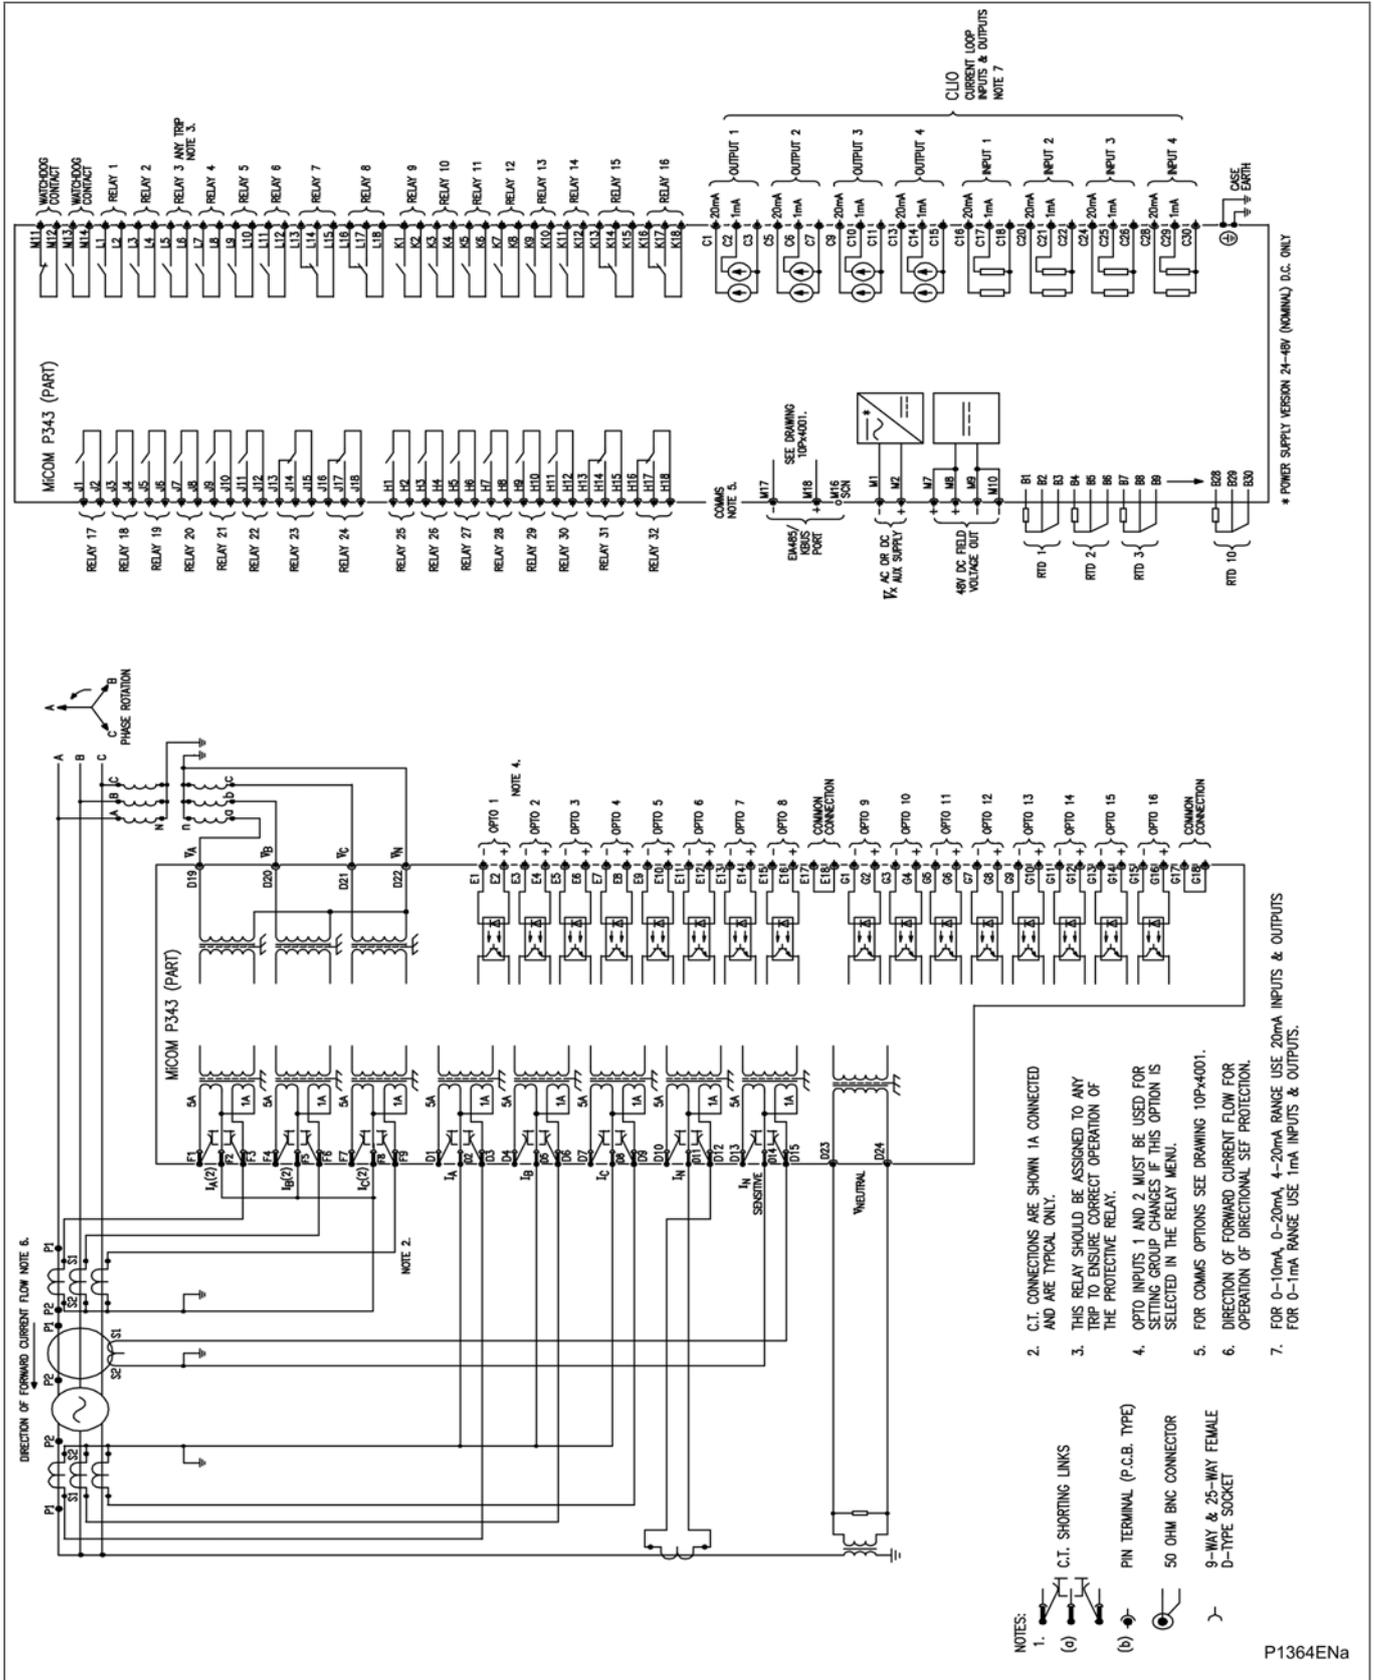

Figure 69 - P343 (80TE) with biased differential (16 I/P & 32 O/P & RTD & CLIO)
- Figure 69 - P343 (80TE) with biased differential (16 I/P & 32 O/P & RTD & CLIO)